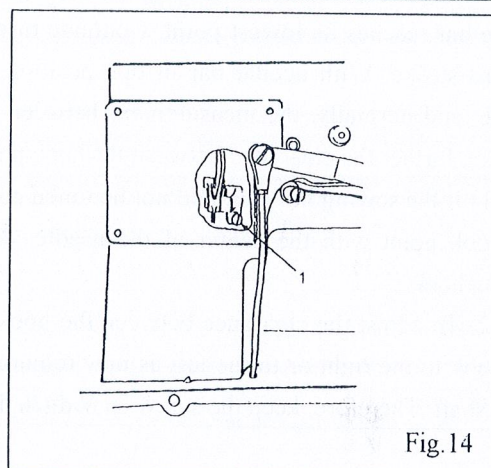

Fig.14
- 1) Remove the cover G (Fig.2) and loosen the screw 1 (Fig.14) slightly.